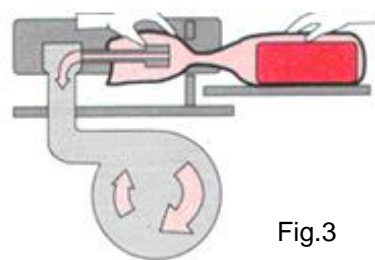

Fig.3
- Place the bag containing the product on the special tray of the machine, and put the open part of the bag on the nozzle (Fig. 3)